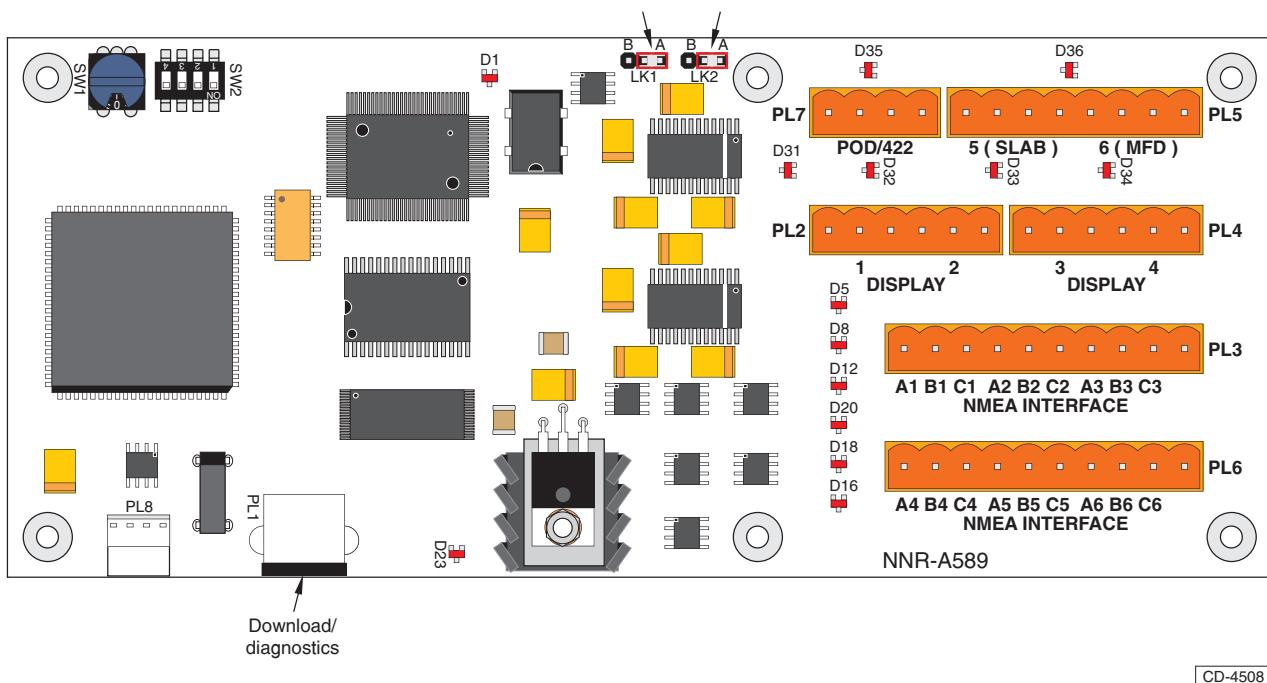

Figure 4f - Ergopod Controller (NNR-A645-2): Link and Switch Locations
- 11 The switch locations are shown in Figure 4f.